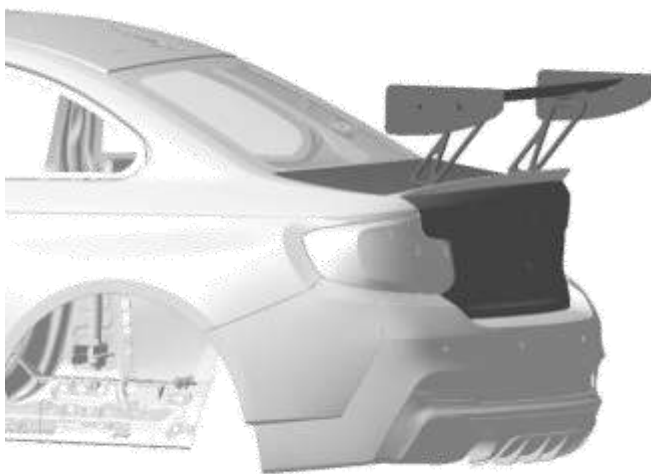

Figure 2.14.1: Rear wing
- Rear wing, incl. side panels, rear wing support and boot lid (figure 2.14.1)